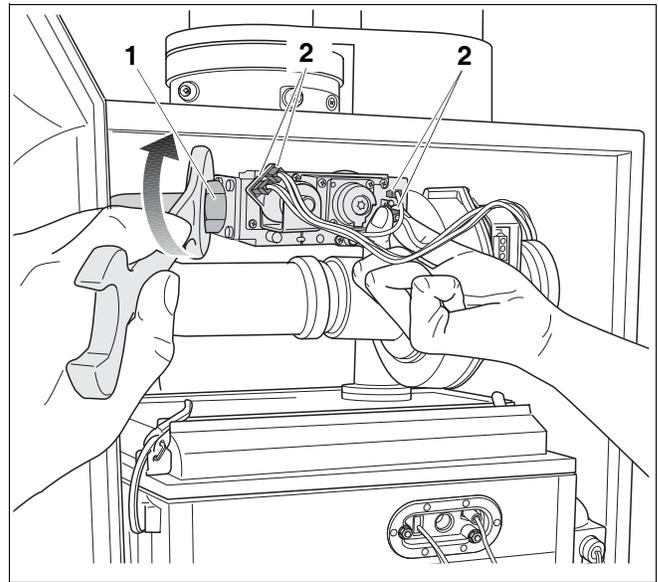

Fig. 80 Undoing the connections to the gas fitting
- Undo the gas fitting screw connection (fig. 80, pos. 1) and pull the 4 connectors (fig. 80, pos. 2) from the gas valve.